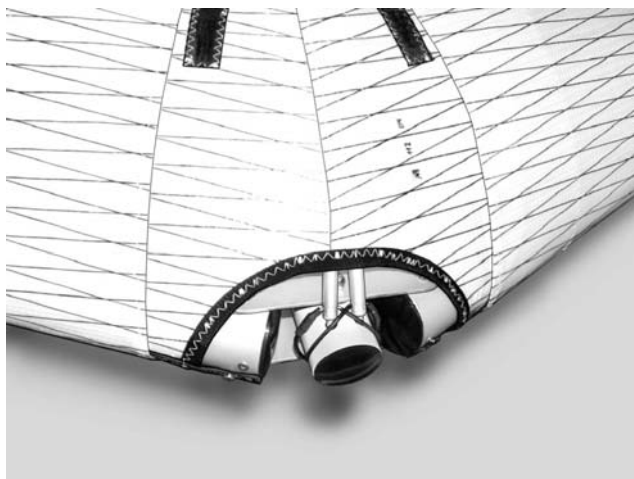

Fig. 5
5. By lifting up and back on the nose batten strings, push the nose battens fully back into the sail so that the batten tips rest on top of the keel tube (Fig.5).